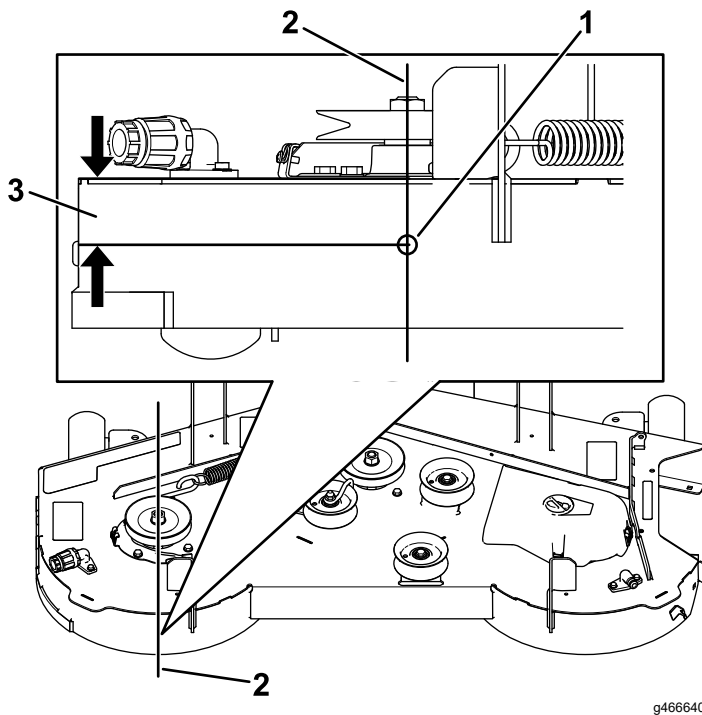

Figure 8
2. At the most rear point of the left baffle curve, aligned with the spindle shaft, measure and mark 47 mm (1-7/8 inches) from the top (Figure 8).
3. Drill a hole at the marked location using a drill bit (9/32 inch) as shown in Figure 8.